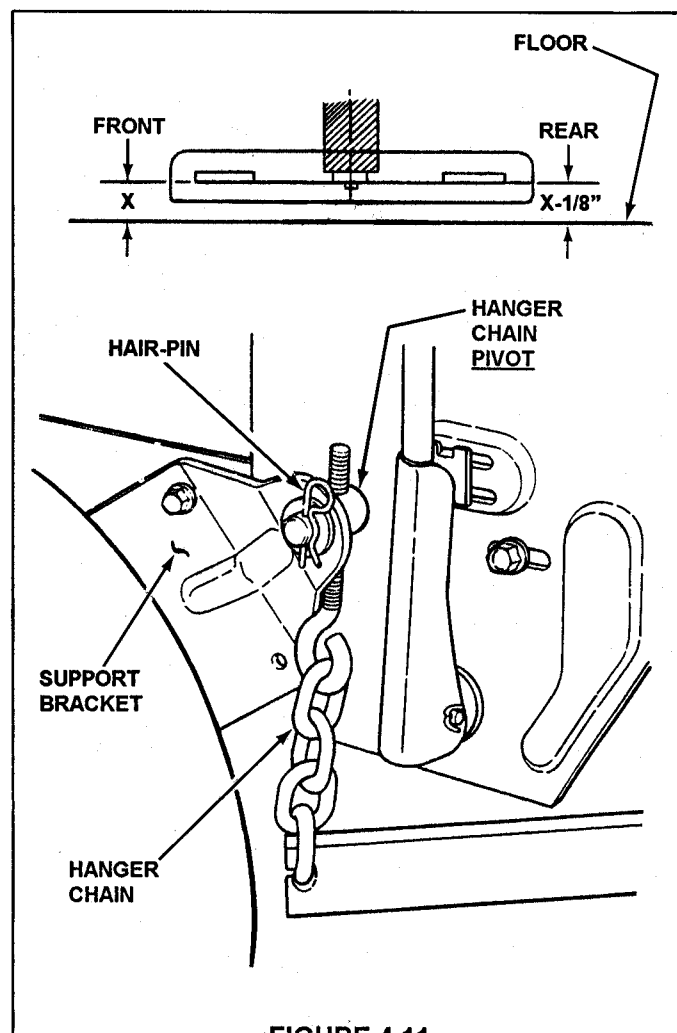

FIGURE 4.11
- Readjust rear hanger chain pivots to align with holes in support brackets. Refer to Figure 4.11.
- Turn each hanger pivot the same number of rotations on the eye-bolt to raise or lower the rear of the deck. See Figure 4.11.